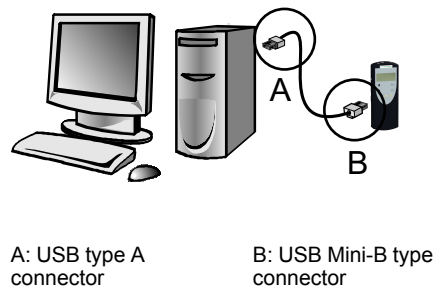

Figure 3
- Insert the SD card in the Multi-Loader and connect the Multi-Loader to the PC with the standard USB type A to Mini-B cable (see Figure 3 below) . The Multi-Loader is power supply by the PC.